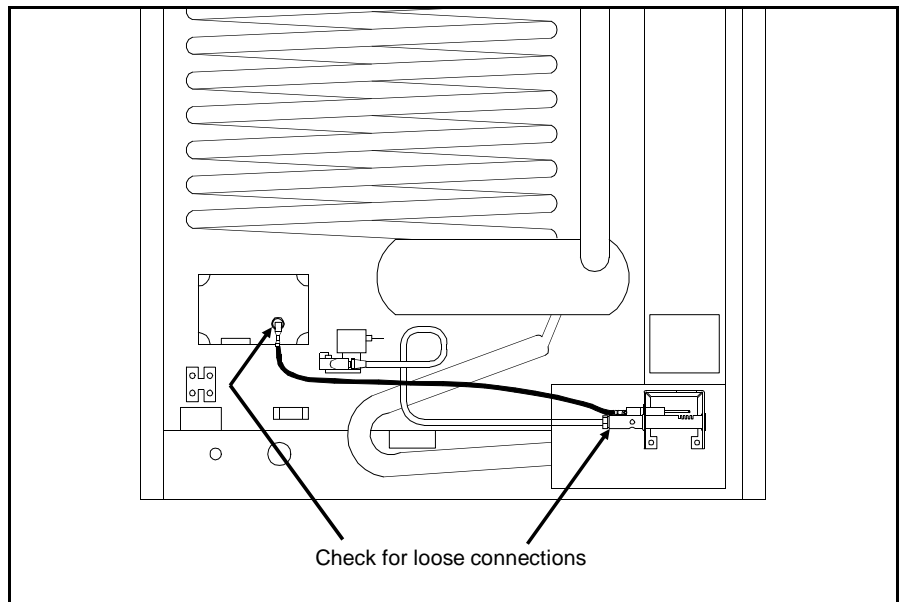

Figure 4.34 Spark Electrode Connections
18. Check to insure there are no loose connections at the electrode and Ignition Module. See Figure 4.34.